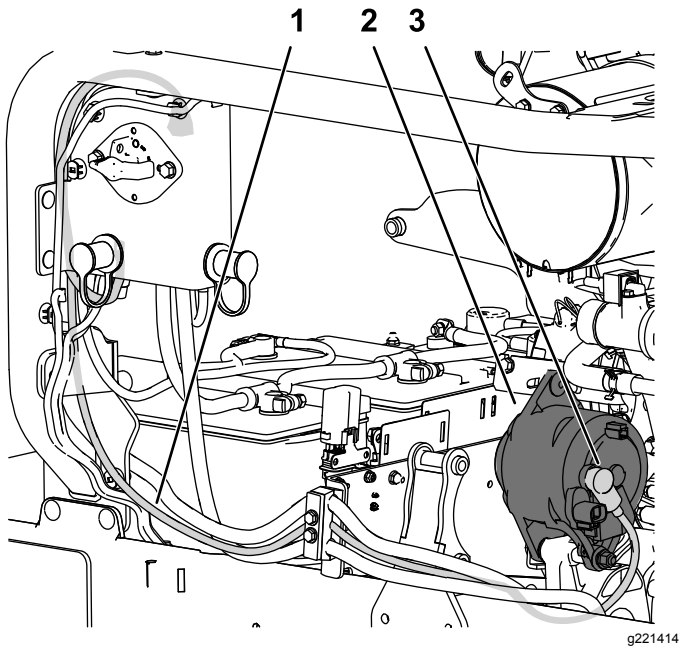
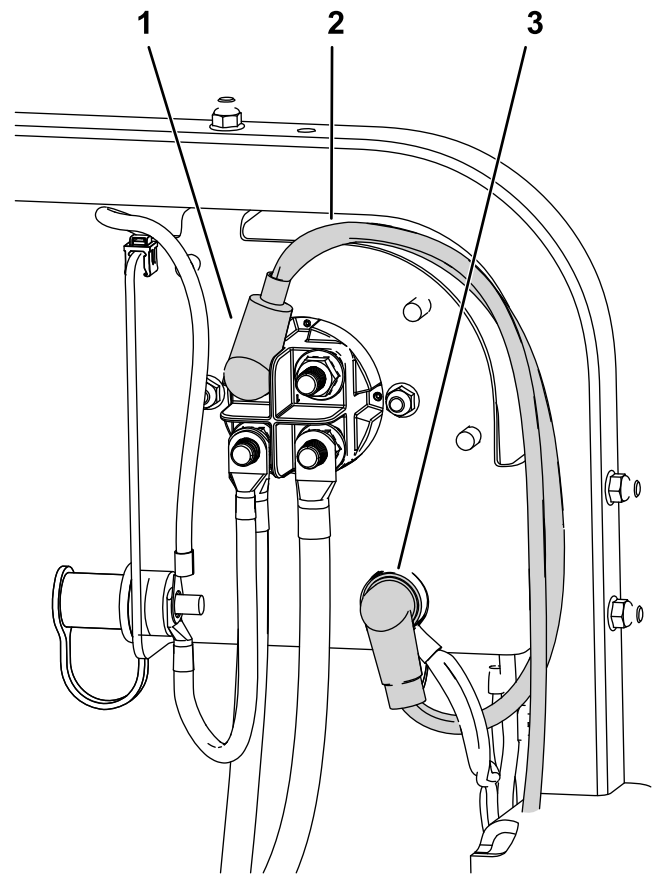
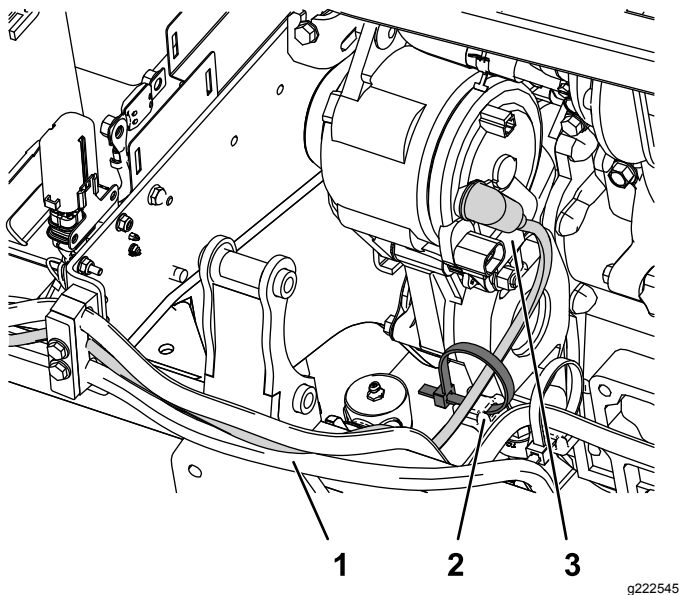

Figure 7
Figure 9
Figure 8
2. Install the 3-terminal cable and torque the nuts as shown in Figure 7, Figure 8, and Figure 9.